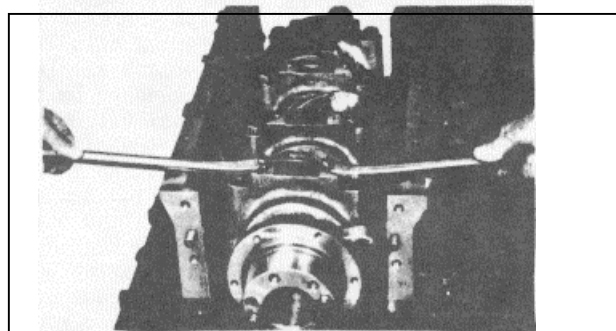

Fig. 2
- (3) Remove one main bearing cap stabilizer at a time, place washers (equal to the thickness of the stabilizer) on the bearing cap bolts and reinstall the bolts.
- (4) Remove one main bearing cap at a time (Fig. 2) and inspect the bearing shells as out-lined under "Inspection". Reinstall each bearing shell and bearing cap before removing another bearing cap.